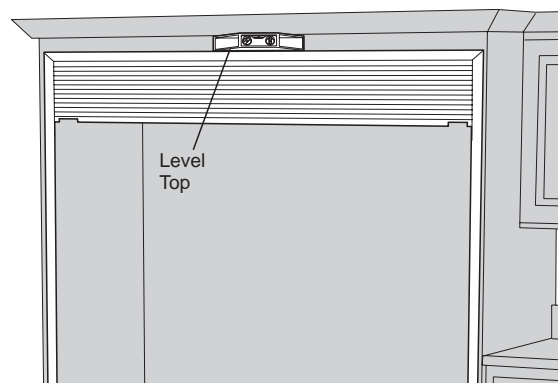

Figure 7
- Level the top of the trim frame using a carpenter's level. See Figure 7.